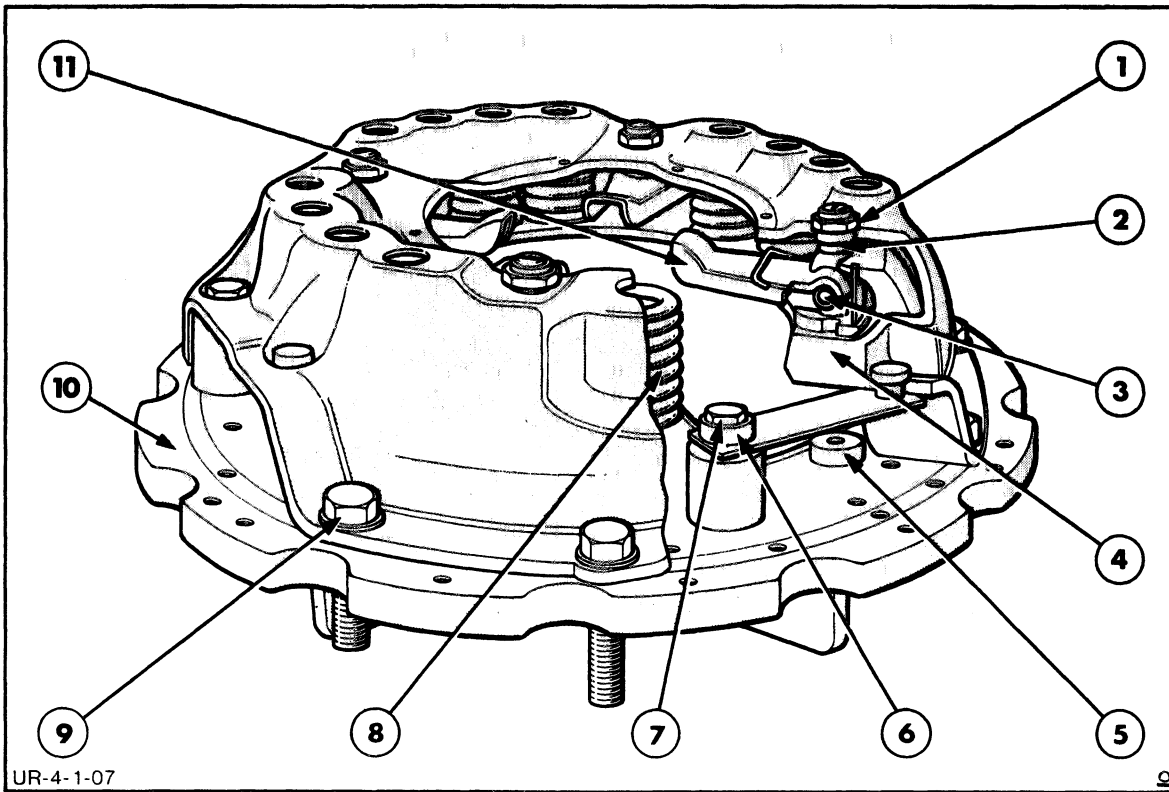

FIGURE 4-274
2. Clean the pressure plate and cover assembly thoroughly, then locate the assembly centrally on the base plate, Figure 4-274, with the four clutch disc spacers, STM 6023/3, between the pressure plate and the base of the tool.
3. Secure the assembly to the base plate with the eight special tool bolts, FT7110/25, Figure 4-274. Tighten the bolts evenly and diagonally across the clutch.